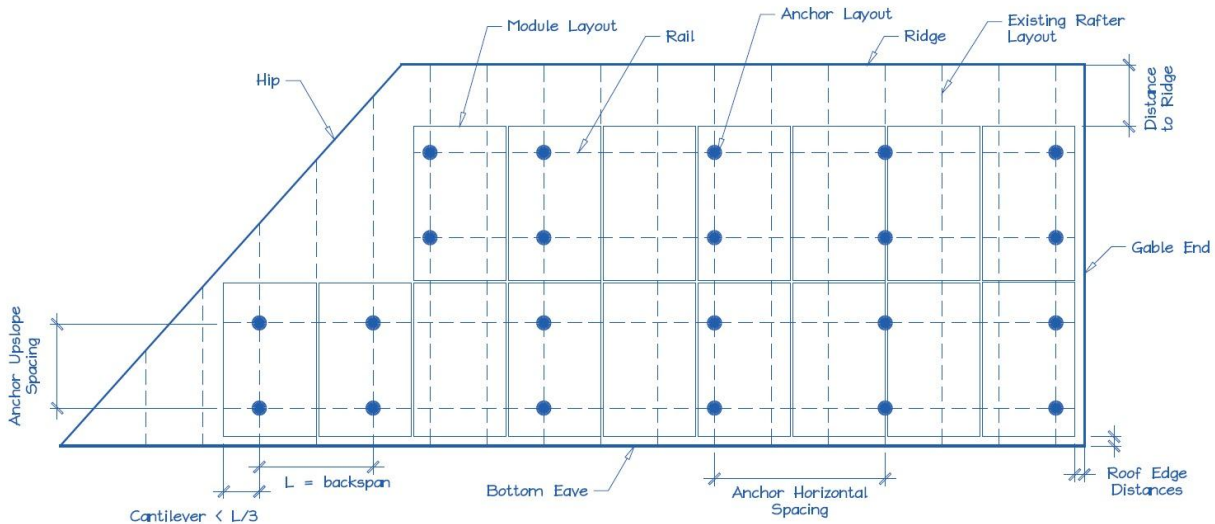

Figure 2. Sample Solar Panel Array and Anchor Layout Diagram (Roof Plan).
- E. Is a roof plan of the module and anchor layout attached? (see Figure 2)  Y  N
- 1) Proposed anchor horizontal spacing (see Figure 2): \_\_\_\_\_' - \_\_\_\_\_"ft-in
1. Anchors are also known as "stand-offs," "mounts" or "points of attachment." Horizontal anchor spacing is also known as "cross-slope" or "east-west" anchor spacing (see Figure 2).